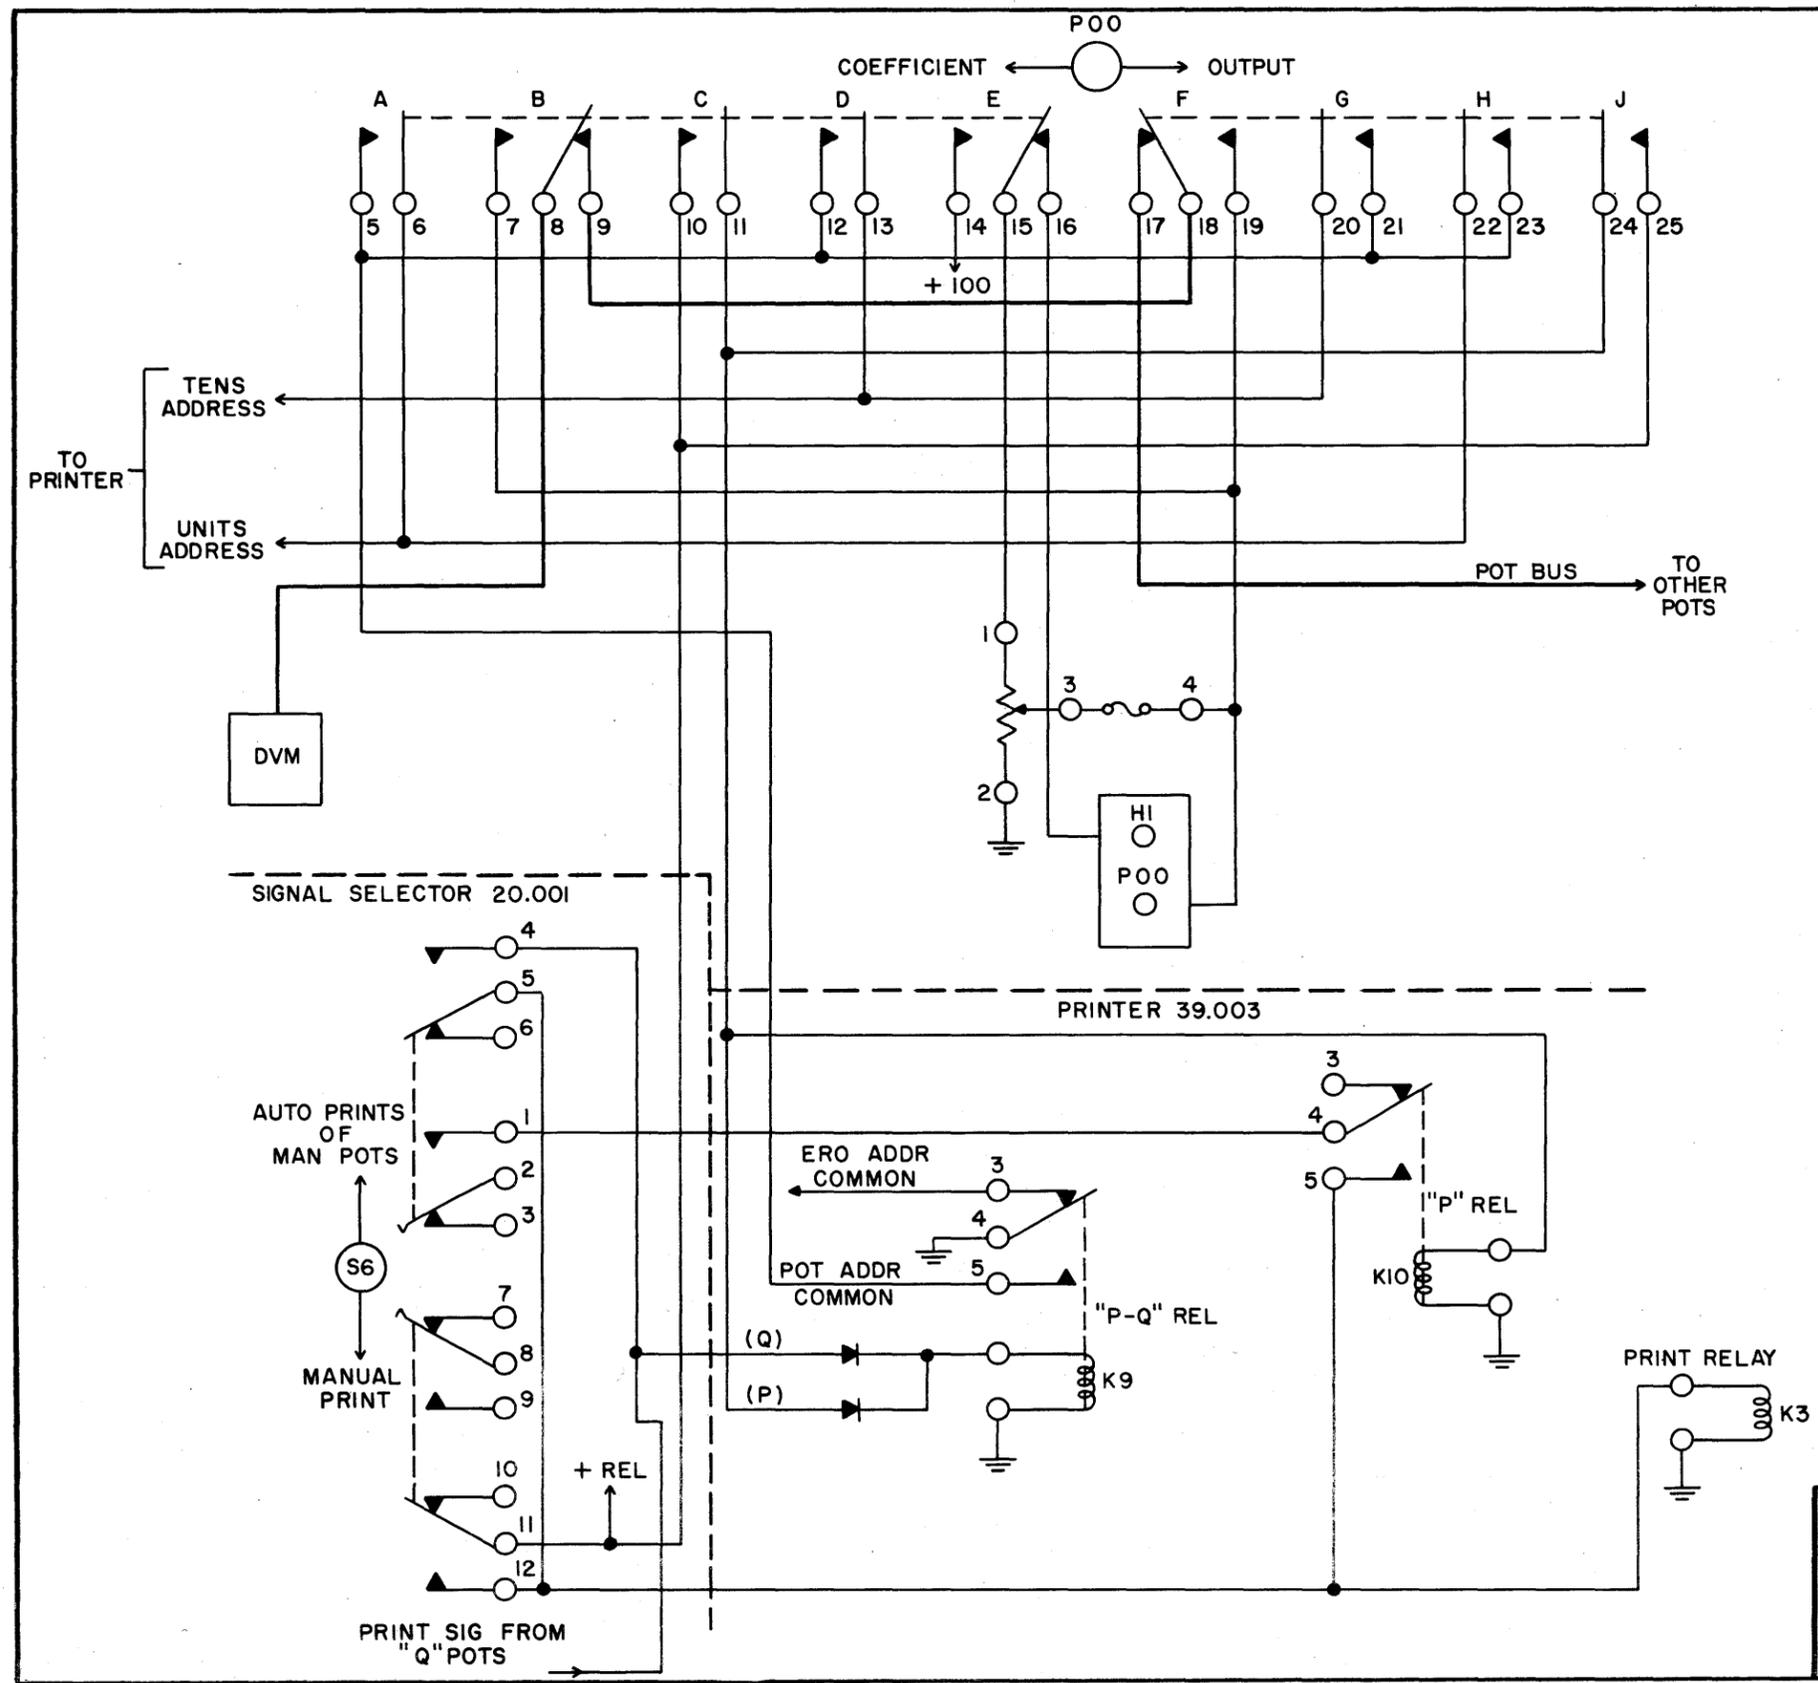

Figure 28. Handset Attenuator Readout, Simplified Schematic.
d. **Attenuators.** Figure 28 illustrates the circuits of the hand-set attenuators P00-P09, and Q00-Q09. The three-position switch below each attenuator is used for readout. The switch can be moved up or down, and is momentary in each direction with a spring return to center. The up position is marked COEF; in this position, the top of the potentiometer is connected to +100 volts and the arm to the monitoring circuits (DVM) for reading the coefficient by which any voltage applied to the top will be multiplied. (The attenuator multiplies by a fixed factor of less than one.) In the center position the top of the potentiometer is connected to the patch panel. The down position, designated OUT, is used to measure the output voltage at the arm of the attenuator after a problem has been patched in. The top of the potentiometer remains connected to the patch panel termination and the arm is connected to the metering circuits.
In figure 28 the "pot bus" is shown in heavy lines. Moving the switch to either COEF or OUT positions opens the pot bus and connects the arm of the potentiometer to the monitoring circuit. Switch sections B, E, and F accomplish this action.